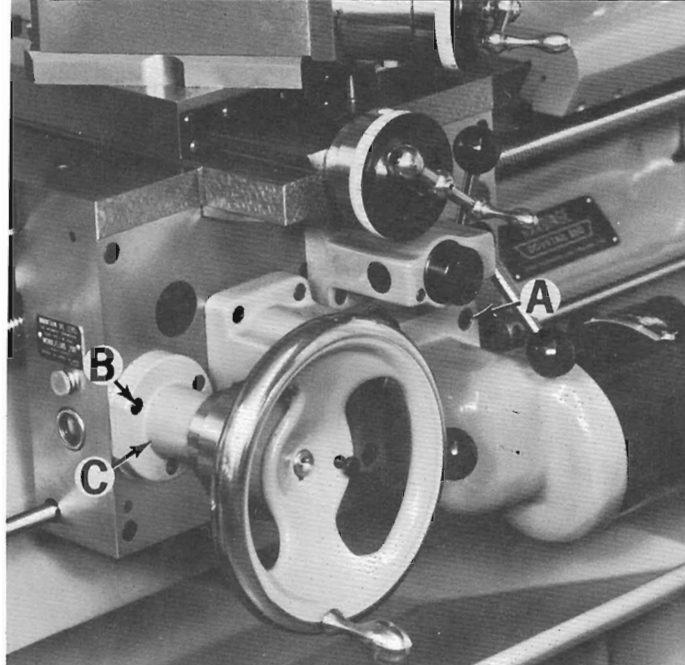

Figure 107 — Carriage Handwheel
2. Remove three screws "A", Figure 107, and remove power feed assembly from apron.
13. Permatex seal handwheel housing. Assemble handwheel assembly and three screws "B", Figure 107.
14. Permatex seal power feed housing and assemble power feed and three screws "A", Figure 107.